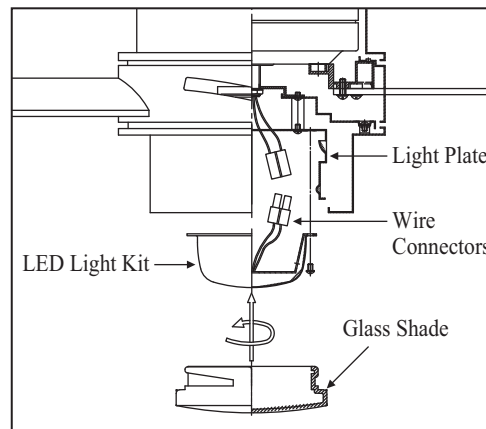

Figure 18
5. Place the key holes on the LED light kit over the 2 screws previously loosened, turn the light kit until it locks in place at the narrow section of the key holes. Secure by tightening the 2 screws previously loosened and the one previously removed. (Fig. 18)
6. Raise glass shade up against the mounting plate and secure it to fan by turning glass counterclockwise until snug. DO NOT OVERTIGHTEN. (Fig. 18)